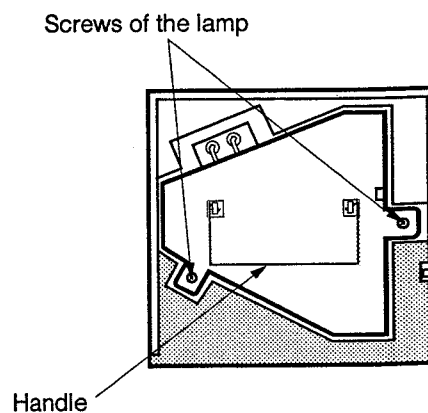

Fig. 4-2
Use a soft cloth to cover the lamp. [Fig.4-2]
5. Tighten up the two screws of the lamp using a screwdriver (+). [Fig.4-2]